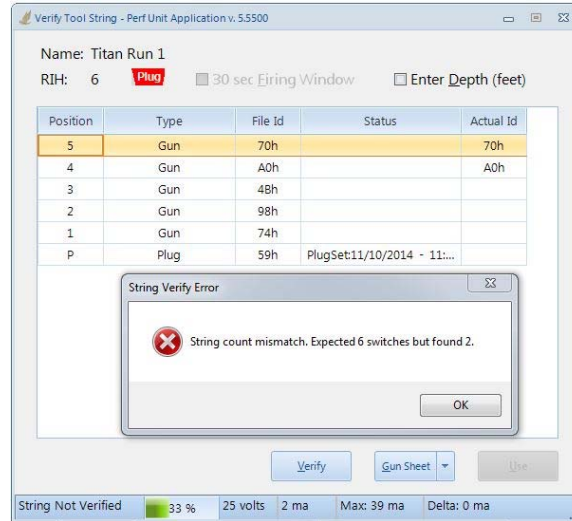

Figure 43
3. Before skipping guns, a Verify should be done to validate the failure. Select the **Verify** button and the results are shown in Figure 43. As seen in Figure 43, this operation confirms the same condition as found on the Gun Control Screen.